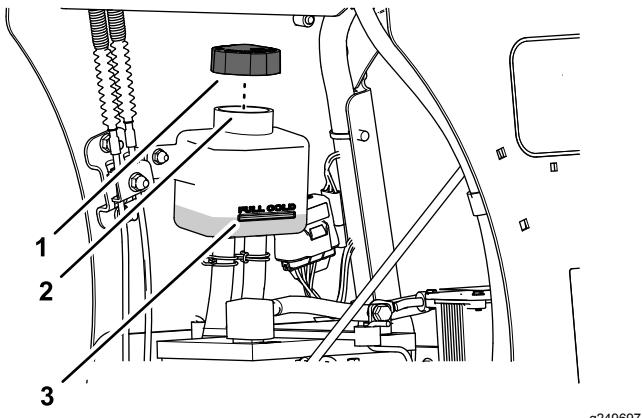

Figure 56
3. Remove the cap from the expansion tank and check the transmission-fluid level in the tank (Figure 56).
4. If necessary, add the specified transmission fluid until the fluid level is at the FULL COLD fill line of the expansion tank (Figure 56).
4. Continue to adding the specified transmission fluid until it reaches the FULL COLD line on the expansion reservoir; refer to Figure 56 in Checking the Transmission Fluid Level \(page 46\).